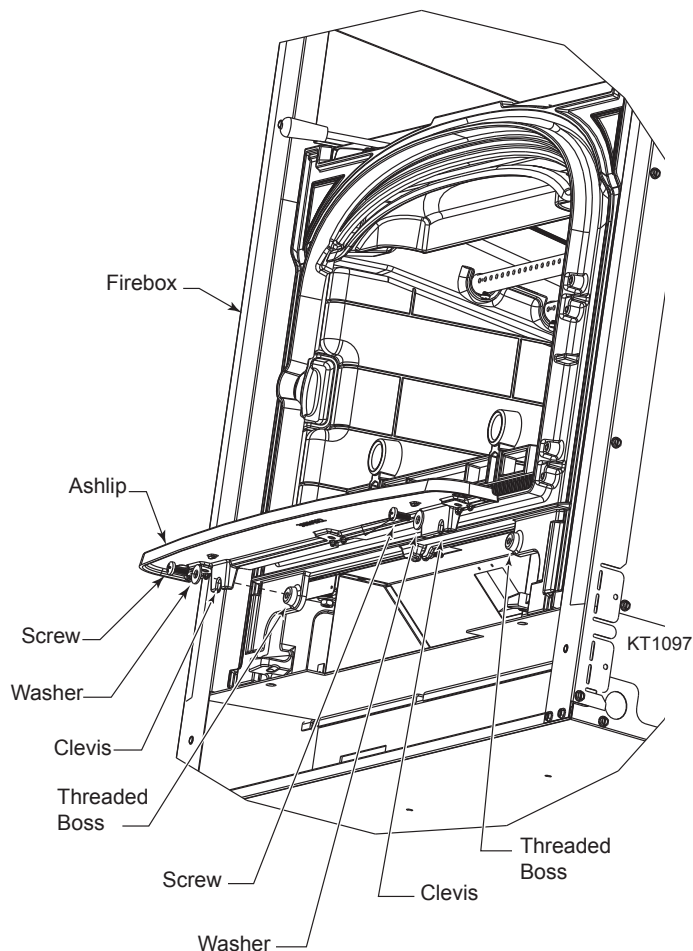

Fig. 36 Install ashlip.
2. Align clevis on ashlip with threaded holes in bosses located beneath the Stratton door. Orient ashlip with clevis pointing down. (Fig. 36)